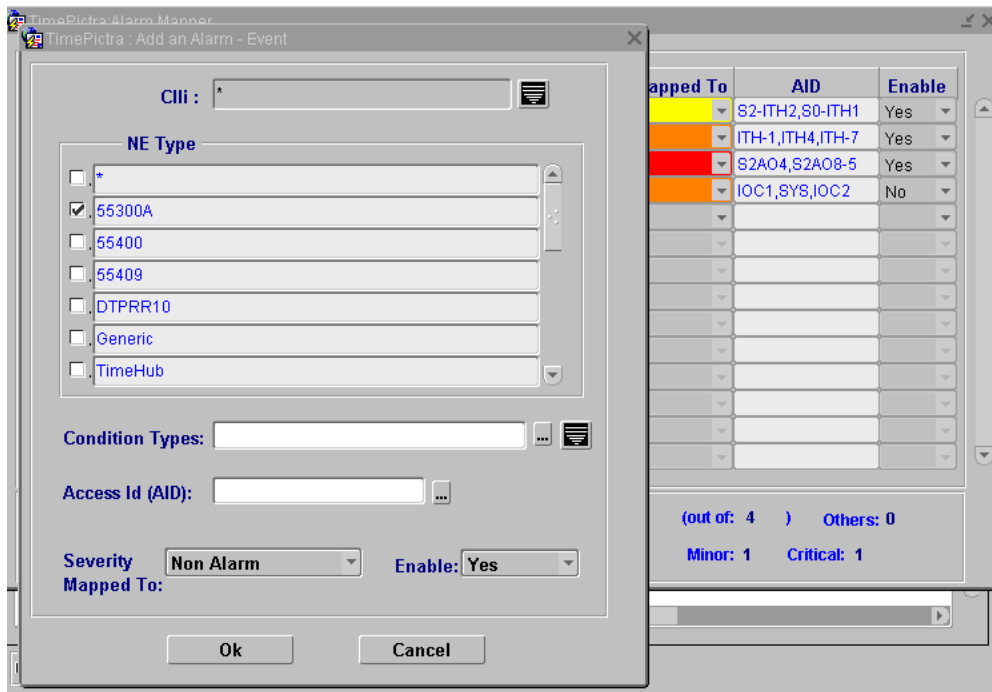

Figure 6-17. Network Element Selection Screen
- Click the check box next to the NEs that you want to select for alarm mapping. Click the * check box to select all available NEs (Figure 6-17).